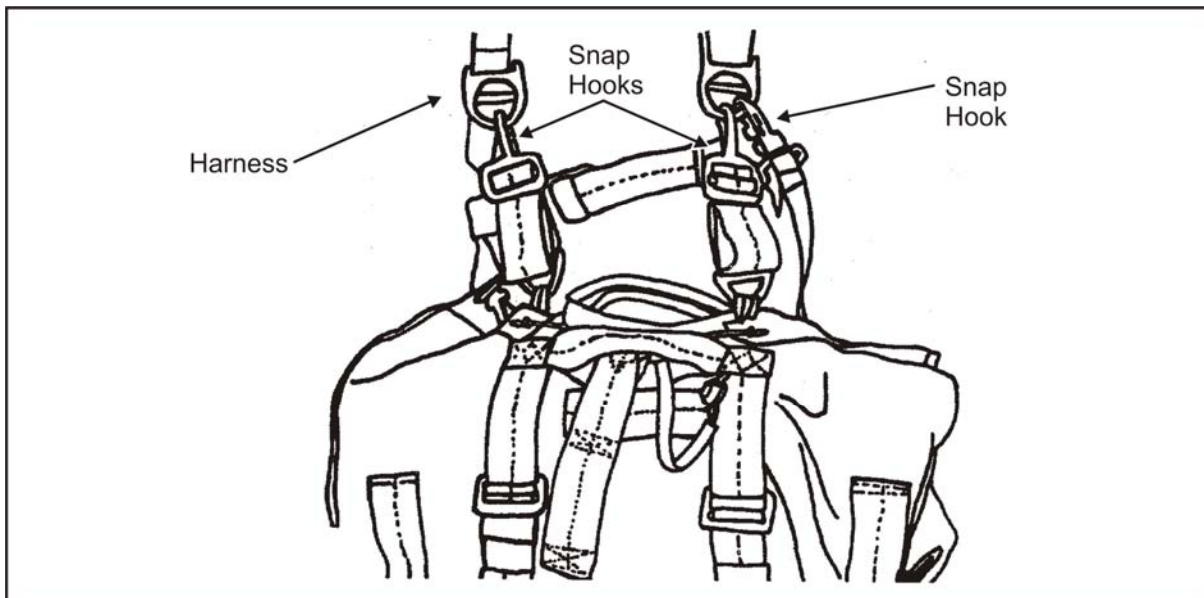

Figure 5-28. Mounted SARPELS
- Mounts the SARPELS cargo container to the large equipment attachment rings on the parachute harness using the snap hook of the D-ring attaching straps (Figure 5-28, page 5-25).